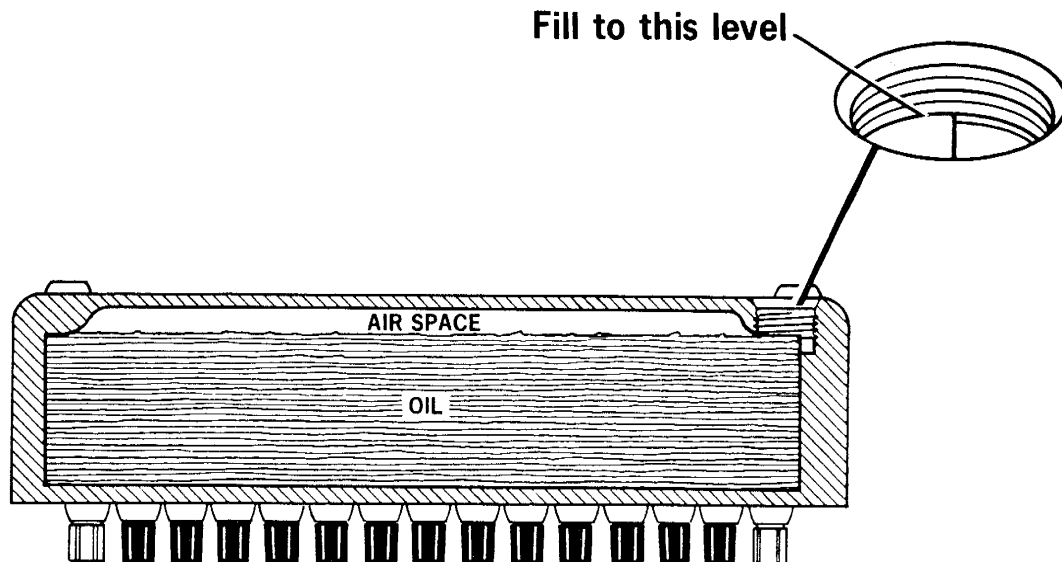

Figure 6-2. Filling the SR1030 with Oil
3. Lay the SR1030 on a flat surface and insert the funnel in the fill port. Pour in the oil until it reaches the right angle in the fill port's opening as shown in Figure 6-2.